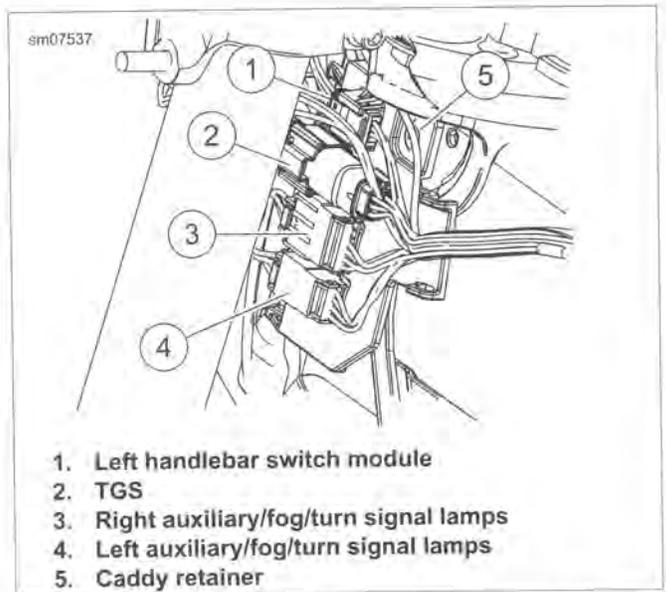
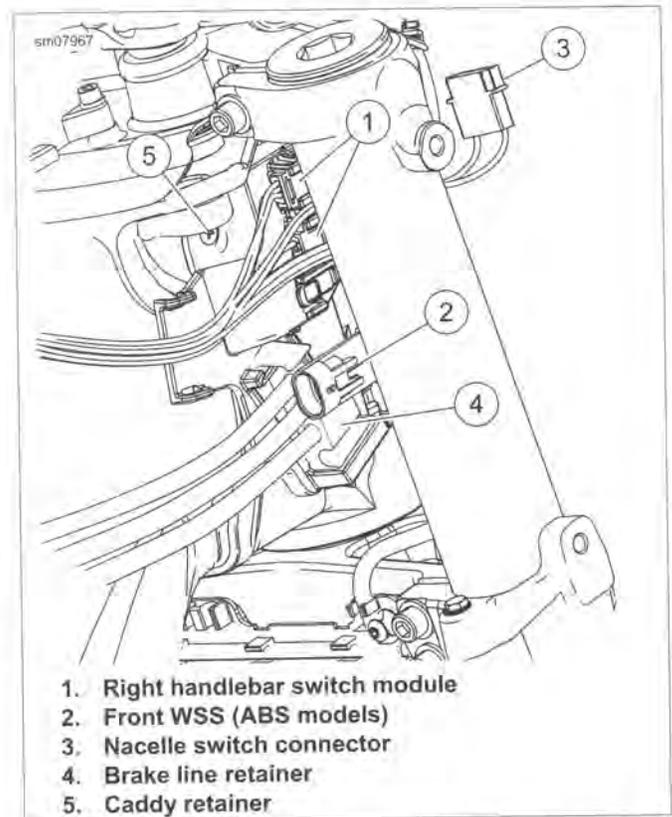

Figure 7-115. Left Side Connectors: Road King
Figure 7-116. Right Side Connectors: Road King
- b. See Figure 7-115 or Figure 7-116. FLHR/C: Disconnect from steering head caddy.
- b. See Figure 7-115. FLHR/C: Install to connectors steering head caddy.